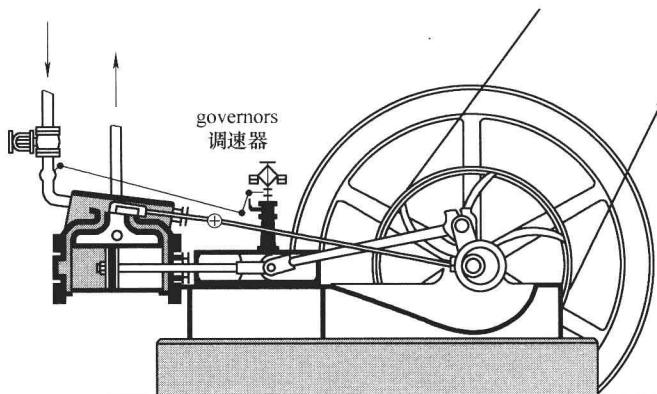
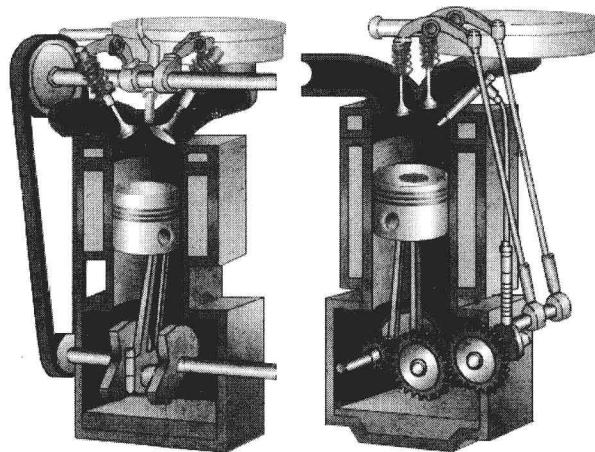

Fig. 1-5
Fig. 1-7
3.5 Steam engine is a symbol of the first industrial revolution which is the beginning of industrial age. Fig. 1-5 shows a steam engine improved by Watt. Read relative materials and understand the way in which Watt improved it. Analyze this steam engine, then grasp its working theory. Besides, describe the process of energy transfer.
3.5 第一次工业革命以蒸汽机的广泛使用为标志，也是人类进入工业时代的开端。图 1-5 所示为瓦特改良的蒸汽机结构模型，请查阅相关资料，了解瓦特从哪些方面对其进行改良。对所示机器进行分析，掌握蒸汽机的工作原理，并说明能量转换过程。
4.5 Fig. 1-7 shows the internal structure of a combustion engine. Read relative materials and understand its working theory. Describe its working process and compare with the steam engine shown in Fig. 1-5, then analyze its advantages and disadvantages.